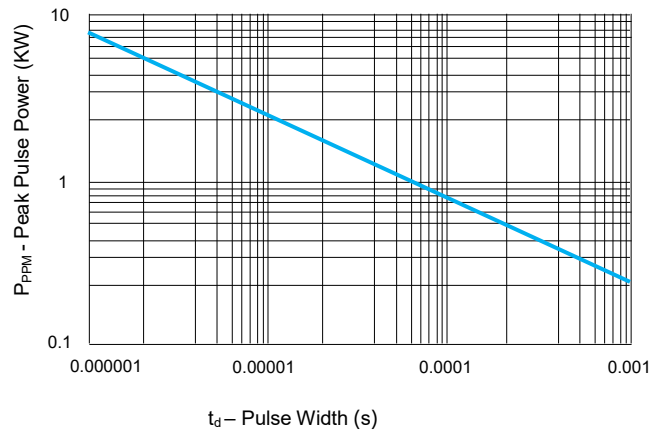

FIGURE 2 Peak Pulse Power Rating Curve
2. Surge current waveform per 10/1000 μ s exponential wave and derated per Fig.2.